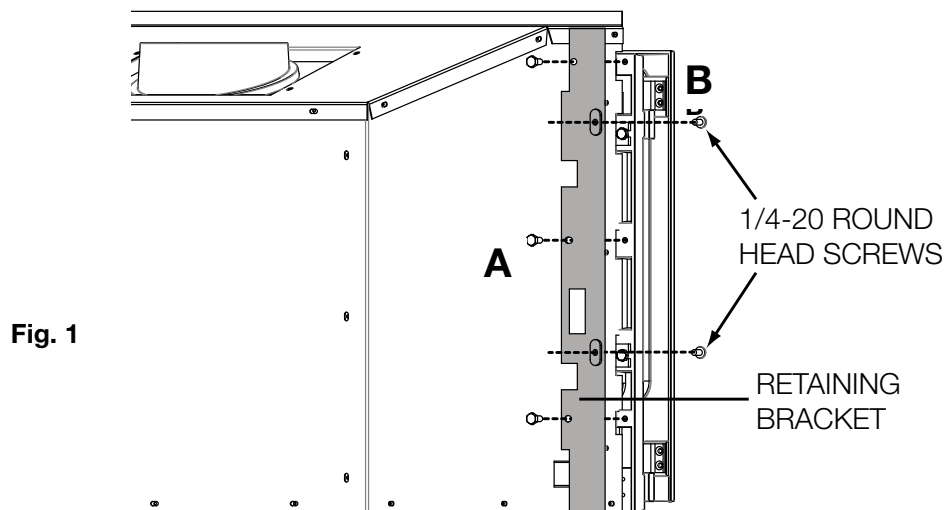

Fig. 1
- B. Thread the 1/4-20 round-head screws approximately half their length into the keyed bracket (**Fig. 1, B**).